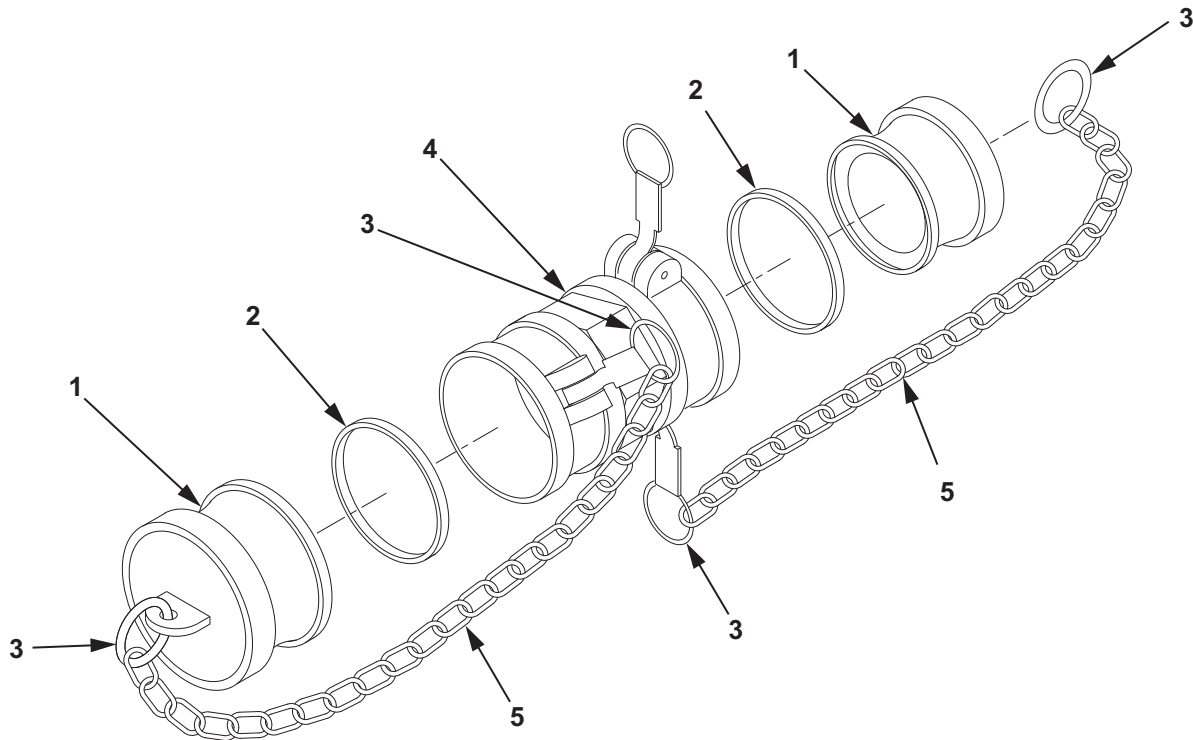

Figure 1. 4 In. Double Female Adapter Disassembly.
1. Remove two dust plugs (Figure 1, Item 1) from ends of double female adapter assembly (Figure 1, Item 4).
2. Remove two gaskets (Figure 1, Item 2) from double female adapter assembly (Figure 1, Item 4). Discard two gaskets (Figure 1, Item 2).
3. Remove four split rings (Figure 1, Item 3) from two dust plugs (Figure 1, Item 1) and double female adapter assembly (Figure 1, Item 4).
4. Remove four split rings (Figure 1, Item 3) from two chains (Figure 1, Item 5).